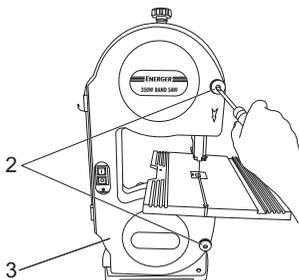

Fig. 13
- > Undo the fixing knobs (2) with the screwdriver and open the left side cover (3). (Fig. 13)